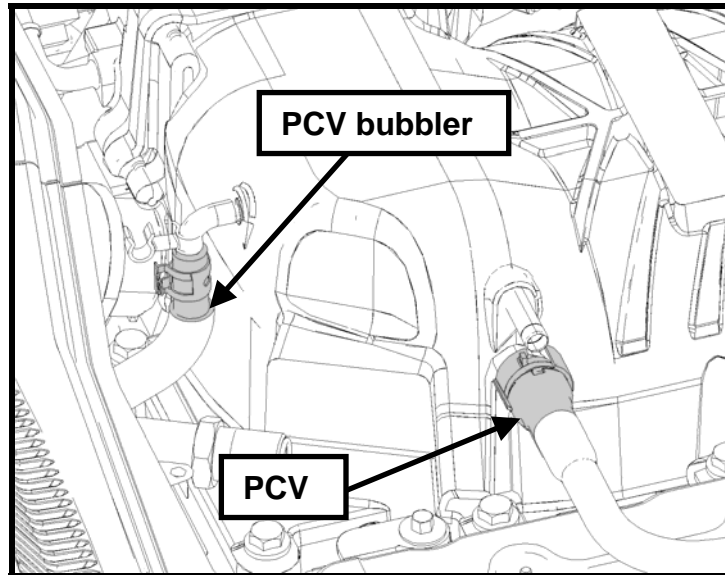

Fig. 21
STEP 6: Re-install the PCV and PCV bubbler lines to the supercharger housing (See Fig. 21).